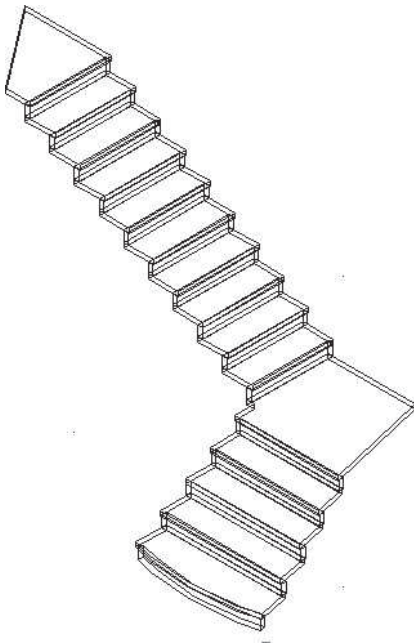

FIGURE 9.30 Modified custom stair (Metric similar)
10. Select the stair and choose **Isolate Objects** from the General panel of the Stair contextual tab. Choose **SW Isometric** from the View Cube. Choose **2D Wireframe** from the Visual Styles flyout menu of the Visual Styles panel in the View tab. The modified custom stair is shown in Figure 9.30.